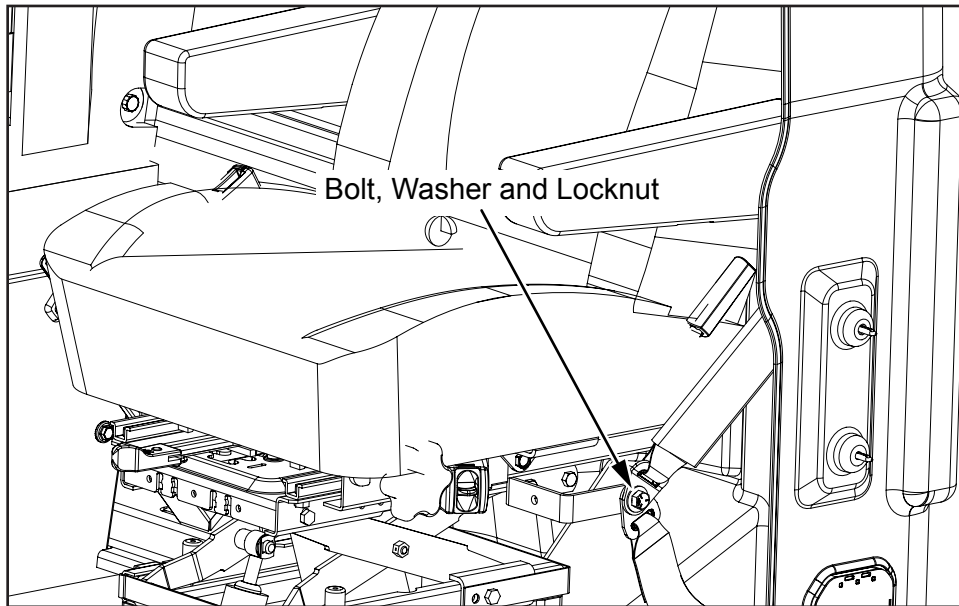

Figure 26
27. Install (1) bolt (A5221026-001), washer (A5221030-001) and locknut (A5221027-001) and tighten to 41 Lbs-Ft of torque (see Figure 26).